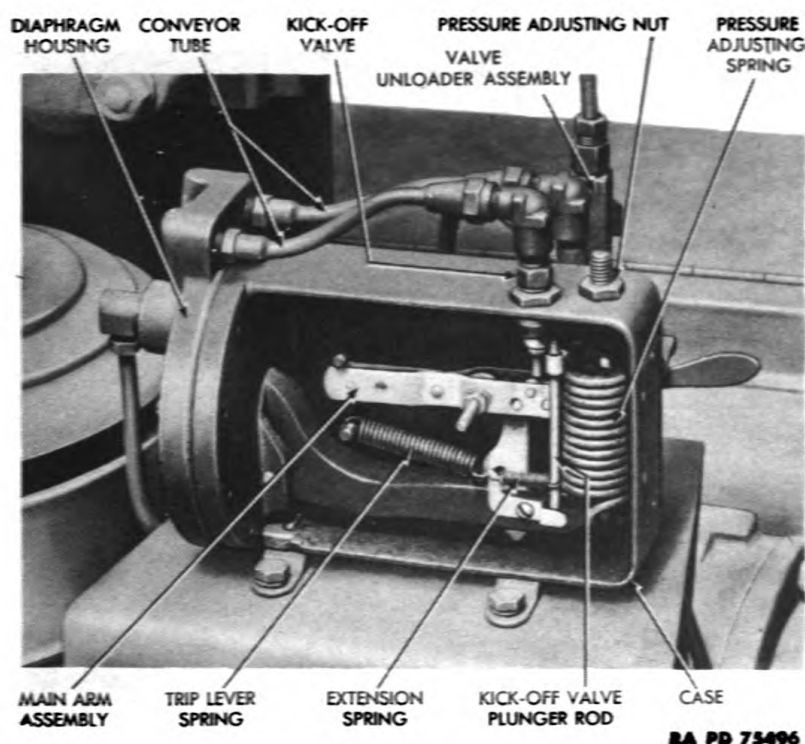

Figure 29 — Compressor Unloader Pilot Valve — Cover Removed
(9) DISASSEMBLY OF UNLOADER PILOT VALVE (fig. 29).
(10) ASSEMBLY OF UNLOADER PILOT VALVE (fig. 29).